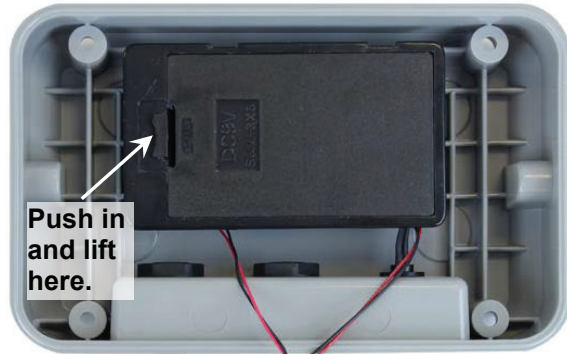

Figure No. 3
3. Remove the four (4) Phillips screws securing the back panel to the main housing.
5. Next, remove the battery holder cover by pushing in on the tab and lifting it up. Refer to Figure No. 3.